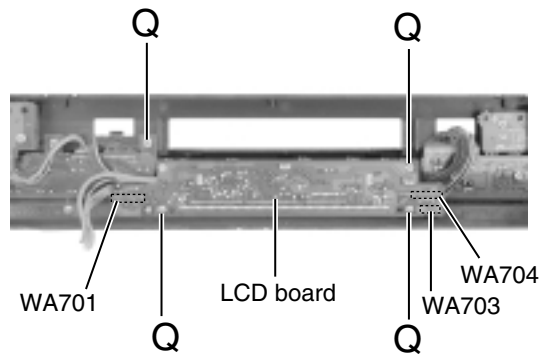

Fig.29
■Removing the LCD board (See Fig.29)